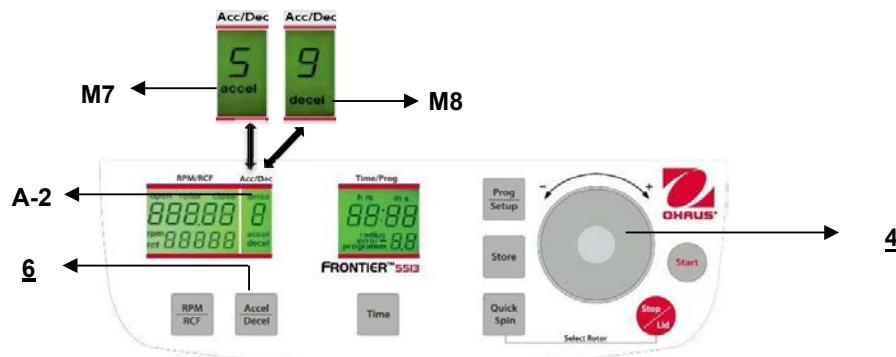

Figure. 15
The lid should only be put down slightly. A lid lock closes the lid, at the same time the word "**open**" (M2) disappears (refer to figure 15).
This function is activated through the key "Accel/Decel" (6) (refer to figure 15).